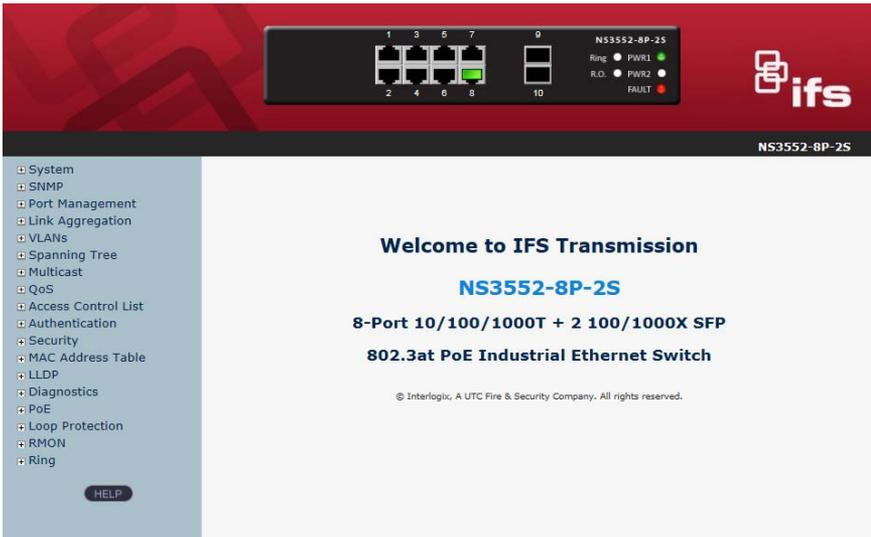

Figure 7-3: Web Main Screen of Industrial Managed Switch
3. After entering the password, the main screen appears as Figure 7-3.